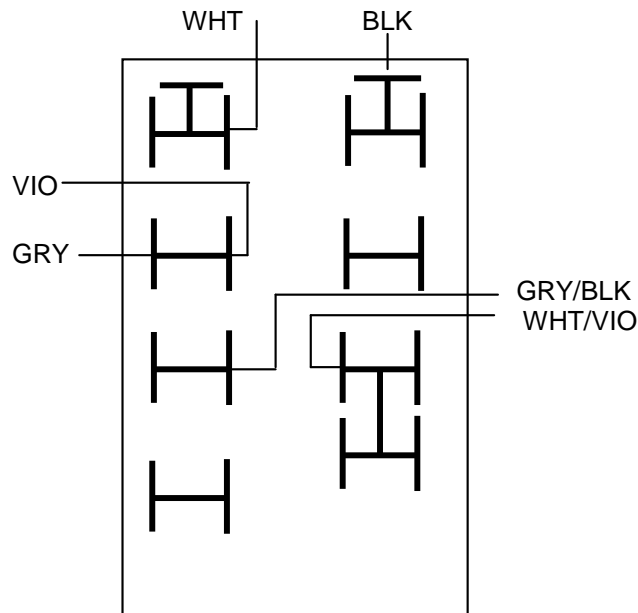

Fig. 6 Wired for 240VAC Operation
- Step 1: Wire transformer terminal block for 240V operation as shown in Figure 6.